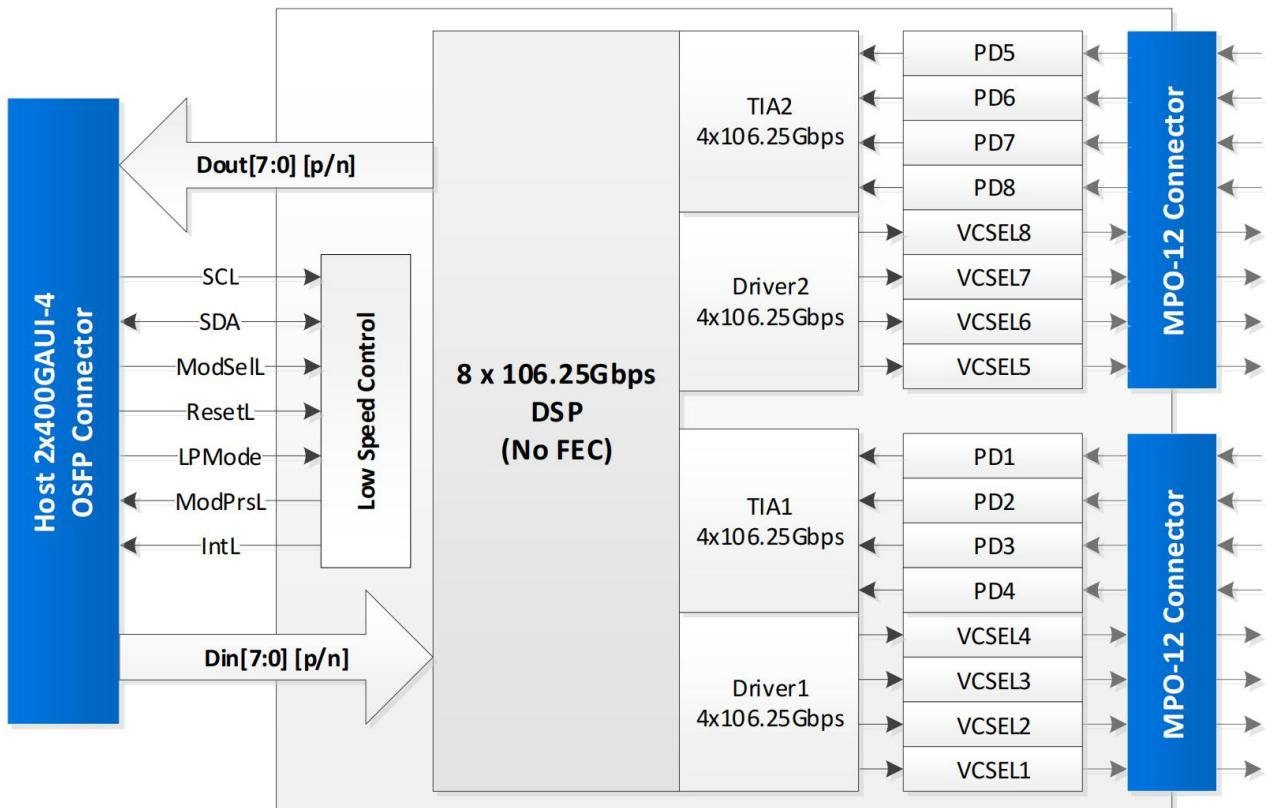

Figure 6 Transceiver Block Diagram
As shown in Figure 6, the transmitter path of the transceiver contains an 8x106.25Gbps 2x400GAUI-4 electrical input and equalization (EQ) block, two 4-channel laser drivers and eight multi-mode laser sources.
As shown in Figure 6, the receiver part of the transceiver contains eight PIN photodiodes, two 4-channel trans-impedance amplifiers (TIA) and an integrated 8x106.25Gbps 2x400GAUI-4 compatible electrical output block